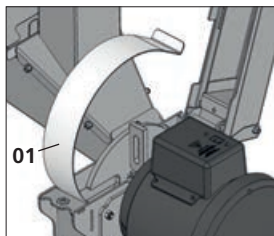
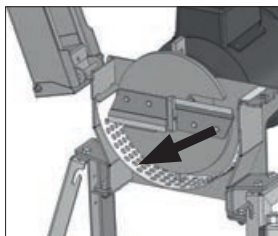

Fig. 15
Fig. 16
Insert the sieve starting with the curved side (1), [Fig. 15]. Open the lid and insert the sieve so that the curved side rests completely on the guides inside the machine [Fig. 16].